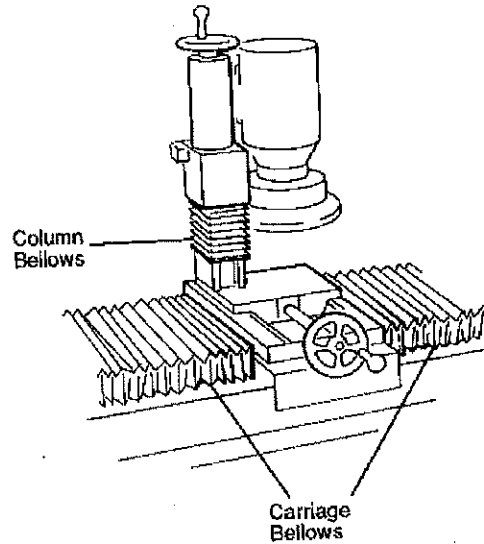

FIG. 14
4. Lift the bellows, (See FIG. 14) if used, and wipe off the traverse driveshaft and the bearing rails monthly. When a squeaking noise is coming from the actuator bearings, follow the lubrication procedure for actuator and linear bearings. Generally, this will be every 6 months to a year.